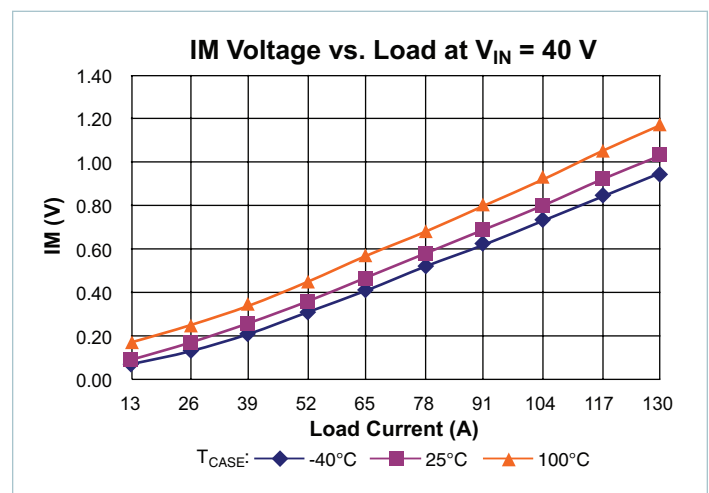

Figure 14 — IM voltage vs. load
Current Monitor (IM) pin provides a voltage proportional to the output current of the VTM module. The nominal voltage will vary between 0.15V and 0.99V over the output current range of the VTM module (See Figures 14 – 16). The accuracy of the IM pin will be within 25% under all line and temperature conditions between 50% and 100% load.